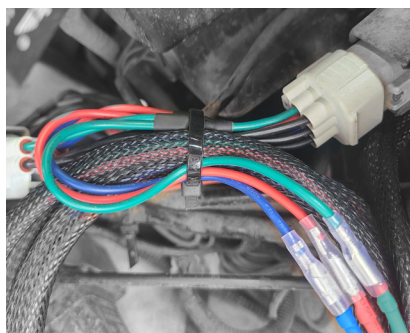

Fig. 5 Patch harness connection
Use the Lightforce dedicated patch harness (included) to connect to your vehicles high beam circuit. To install the Lightforce patch harness, remove the existing factory six pin connector from the back of the left hand side headlight. There is a locking tab that must be depressed before removing the connector (see Fig. 5).
Connect the corresponding connector from the Lightforce patch harness to the rear of the head light and the other end to the factory wiring harness as shown in Fig. 5. Connect the red, green and blue wires to the corresponding bullet terminals on the wiring harness (items 7, 8 and 9 on Fig. 1).